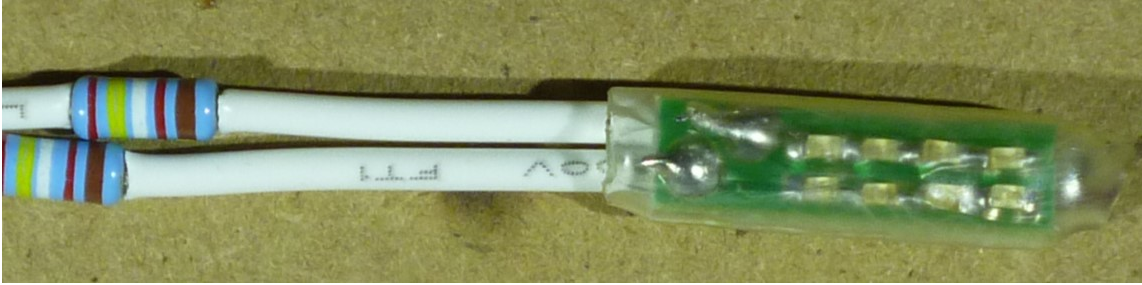

Figure 10-completed assembly
12. Figure 10 shows a close up of the completed assembly. Shrinking the heat-shrink tubing has locked the insulation in place.